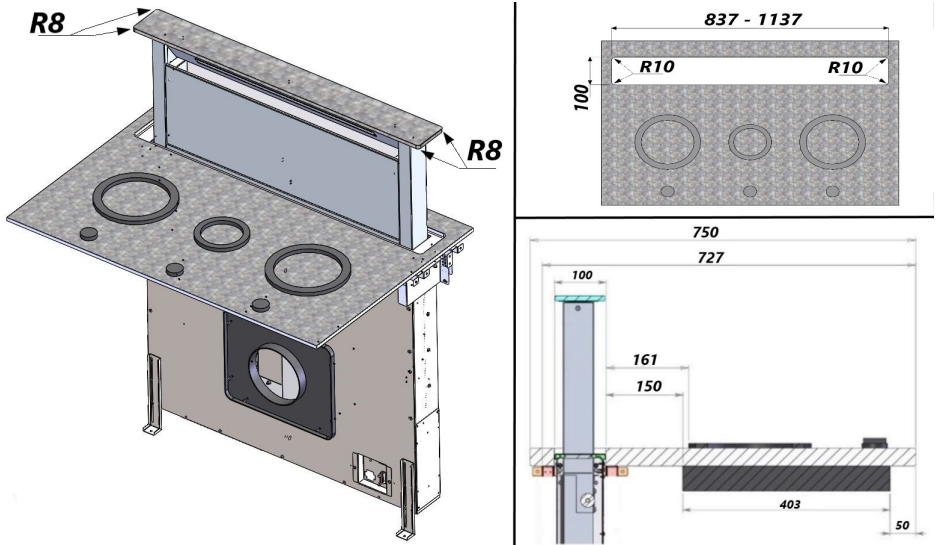

Fig. 2
3. Make a rectangular hole 837x100 mm for the 880mm version or 1137x100 mm for the 1180mm version in the rear part of the hob, it is necessary to obtain the radius 10 on each corner of the rectangular opening (see fig. 2).